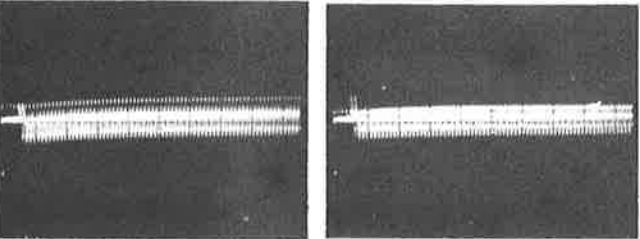

Fig. 23—Chroma Null
- 4. Adjust R3329 for minimum p-p signal see Figs. 23 & 27.